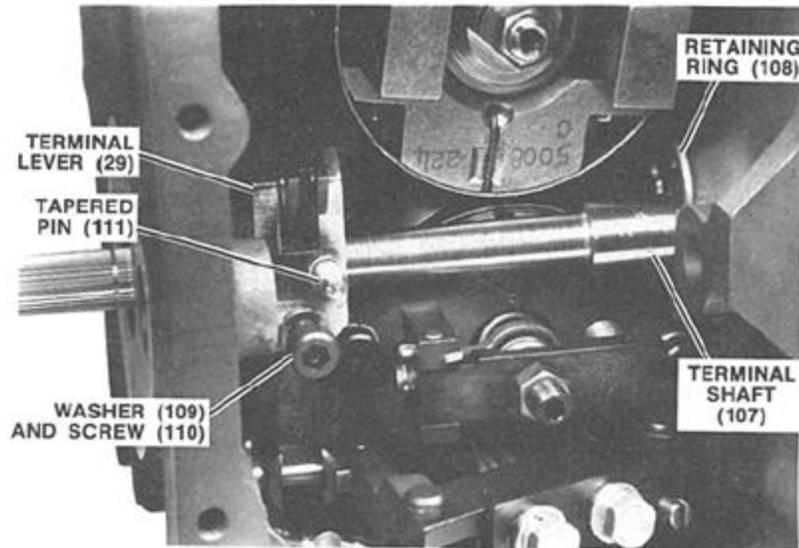

Figure 5-32. Terminal Shaft Installation
28. Insert terminal shaft (107) through side of case (Figure 5-32) and through terminal lever (29). Secure with retaining ring (108). When inserting shaft, tapered hole in shaft must align with hole in terminal lever. Insert tapered pin (111) into hole tight enough for alignment and thread screw (110) with washer (109) into terminal lever and tighten. Tap taper pin in until it is tight.